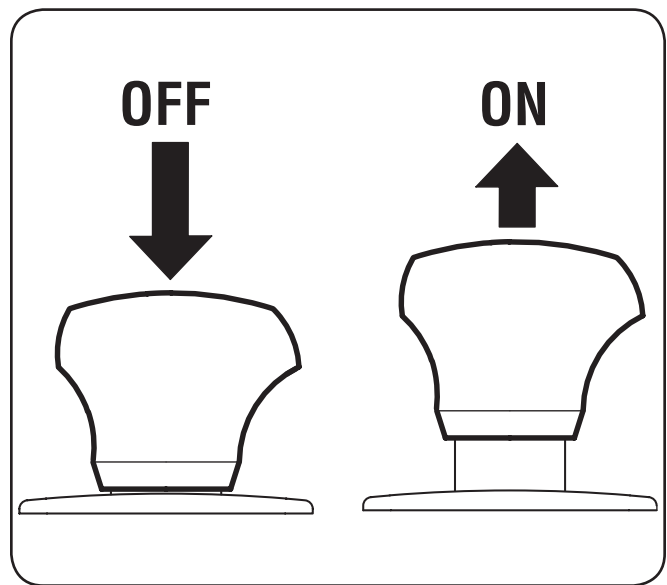

Figure 5-4
2. Pull the PTO/Blade Engage knob outward into the engaged (ON) position. See Figure 5-4.